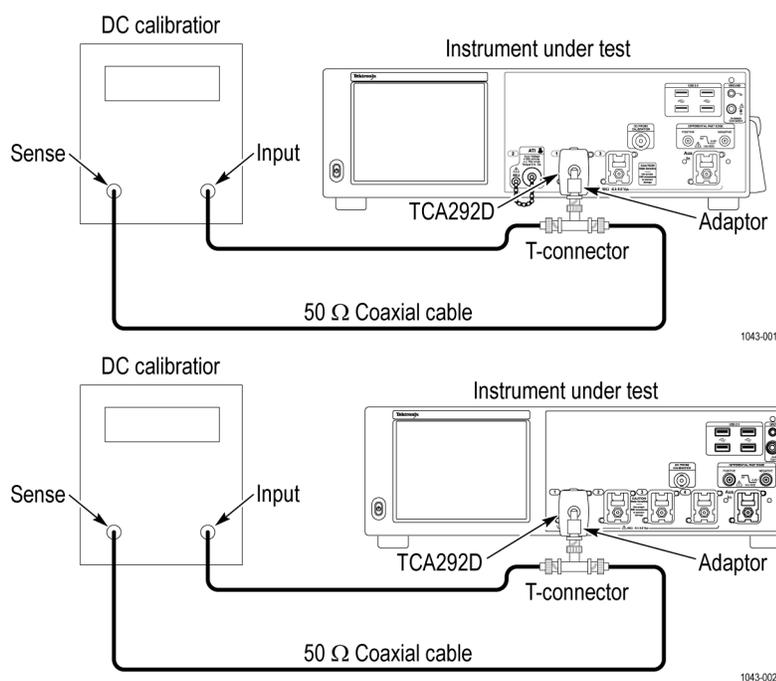

Figure 8: DC voltage accuracy test hookup
- Connect the output of a DC calibration generator. (See Figure 8 on page 109.)